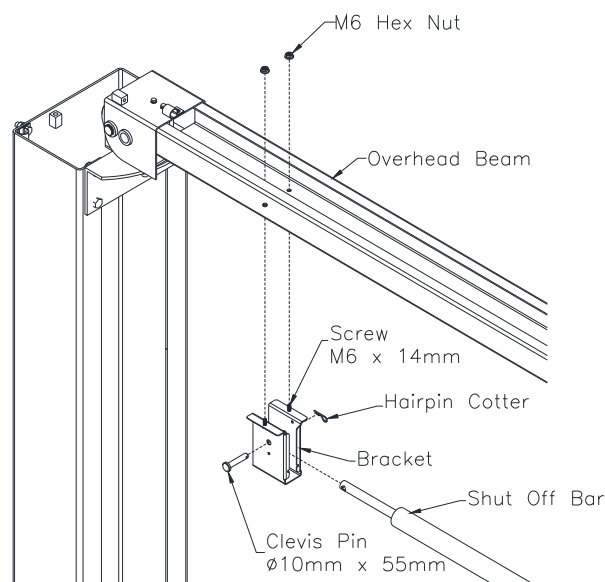

Fig 7b – Overhead Limit Switch Idler Side
- 15) Install the Idler Bracket to the Overhead Beam on the Idler Side of the lift. See **Fig 7b**. **Note the orientation of the Idler Bracket. The narrow slot needs to be facing towards the Power Column.** Slide the Shutoff bar over the limit switch on the Power Side. Pin the Shutoff Bar to the Idler Side Bracket with the 10mm dia. x 55mm Lg. clevis pin & hairpin cotter.